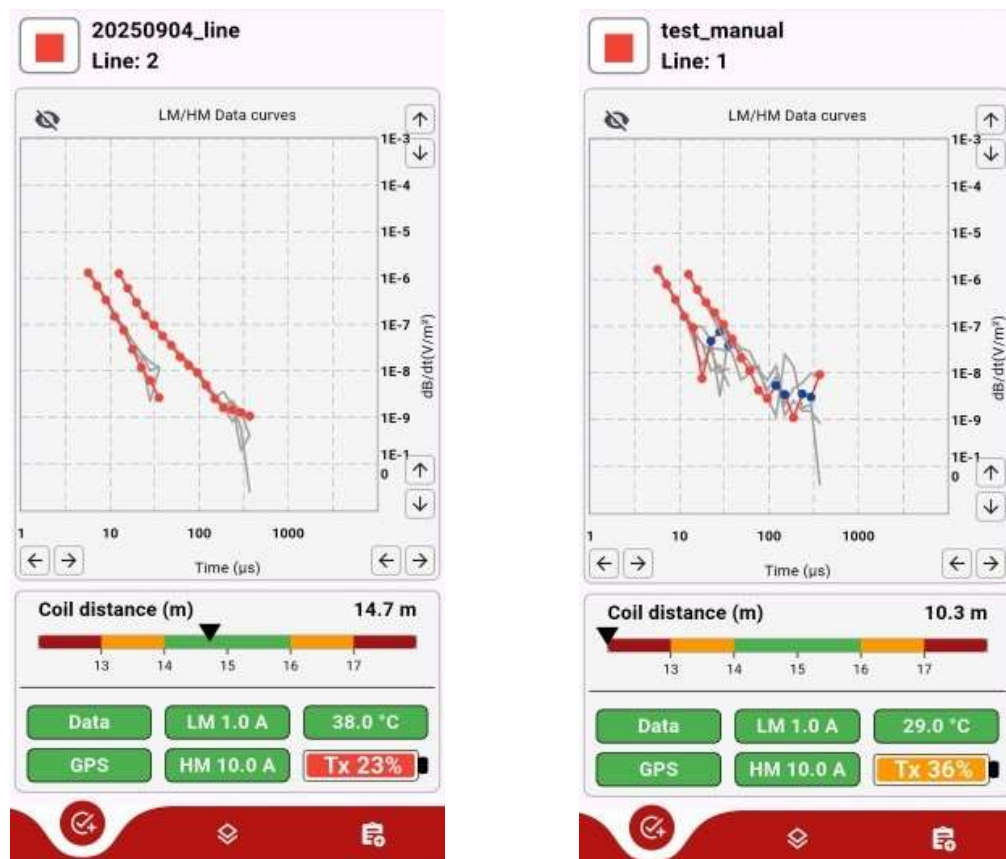

Figure 40: Examples of good data (left) and biased data (right) due to close distance between coils (<10m)
2. If this results in a strongly biased signal in the receiver (Figure 40), the instrument is functioning properly.